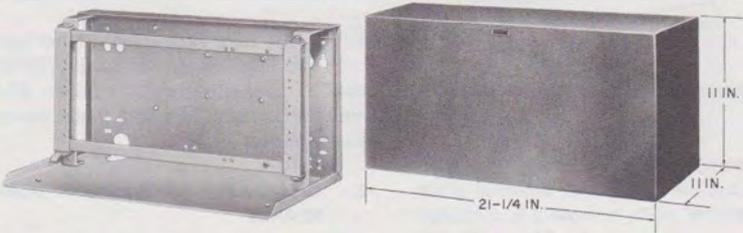

Fig. 10—4-Plate Cabinet per ED-91472-70 (MD)
2.11 The 4-plate equipment cabinet ♦(MD)♦ per ED-91472-70* (Fig. 10) is a metal cabinet with a hinged steel gate and removable metal cover. The cabinet is drilled for wall or floorstand mounting.